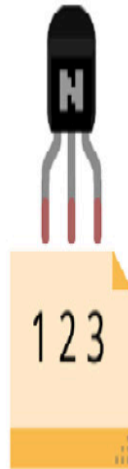

Figure 6.4 – The 2N2222 transistor pin numbers
*Figure 6.4* shows the 2N2222 pinout:
*Figure 6.4* shows a 2N2222 transistor in its TO-92 package, showing its three pins. Pin 1 is its emitter, pin 2 is its base, and pin 3 is its collector. The N shown on the transistor means that the 2N2222 is an NPN-type transistor, an internal configuration composed of negative-positive-negative layers. That big N letter is not actually shown on commercial transistors; it appears only on the Fritzing diagram shown in *Figure 6.4*. Instead, commercial transistors show their part number on them.